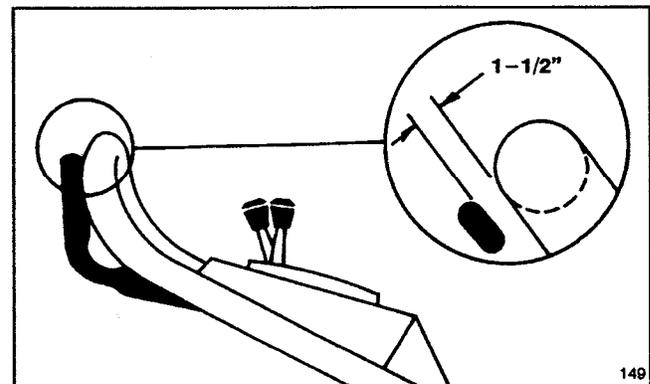

Figure 23
2. Lift control bar until some resistance is felt. Control bar should be 1-1/2" from handle when properly adjusted (Fig. 23).